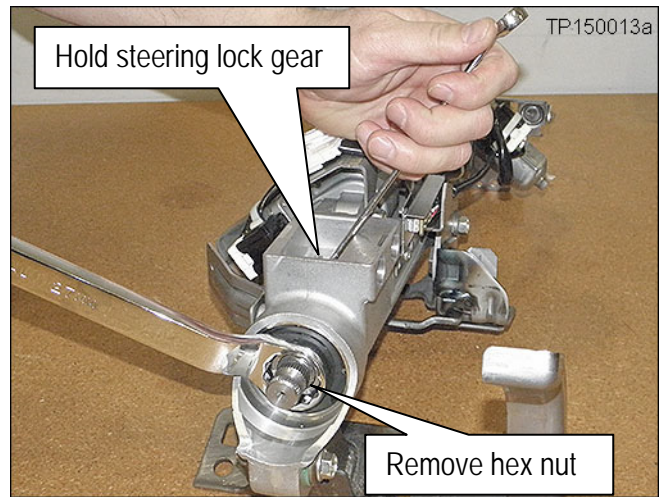

Figure 2
- Use a wrench or other suitable tool to hold the steering lock gear while removing the nut (see Figures 2 and 3).